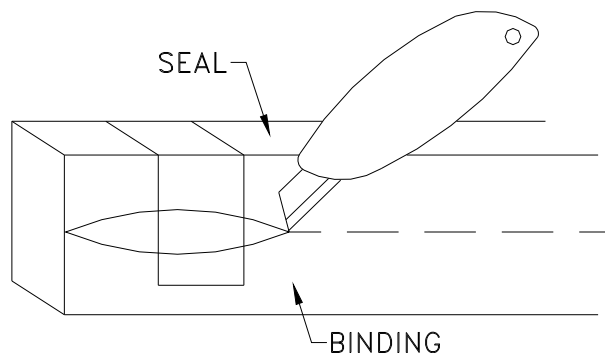
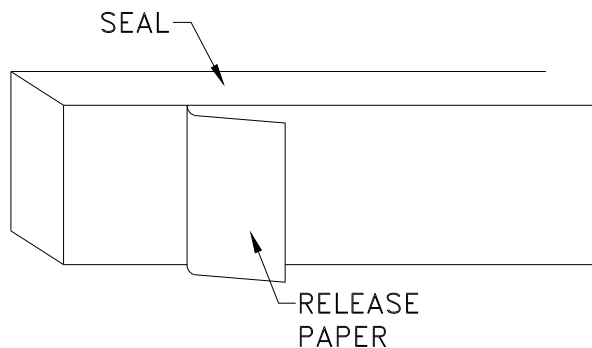

Figure 3
Figure 4
- H. Confirm that the joint is clean, sound and provides an appropriate installation surface. Use compressed air to clean away any dust and loose debris from the joint, see Figure 3. Using water, a 50/50 mixture of alcohol and water, or alcohol to applied to clean cloths, wipe the joint interface walls clean to the depth of the seal plus 1".
- STEP 4.** When working with stick-packaged material, remove the binding holding the stick(s) compressed (see Figure 3). Cut the binding along the hardboard edges. Do not cut along the face of the seal. Remove the release paper from the sides of the seal, exposing the pressure sensitive adhesive in preparation for installation (see Figure 4).